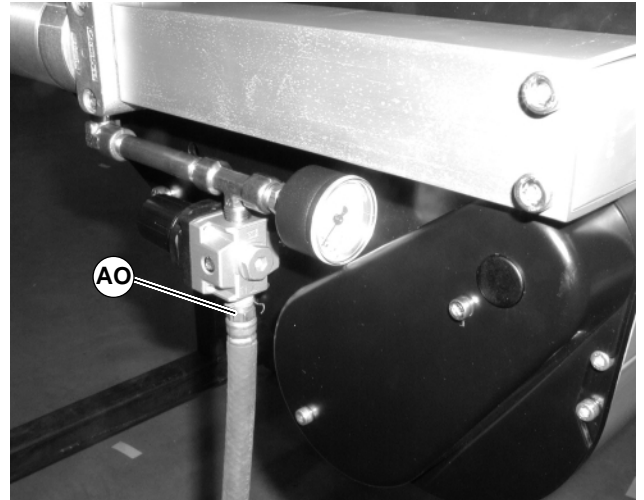

Figure 67
1. Remove air supply and remove hose (AO of Figure 67) from center drive.